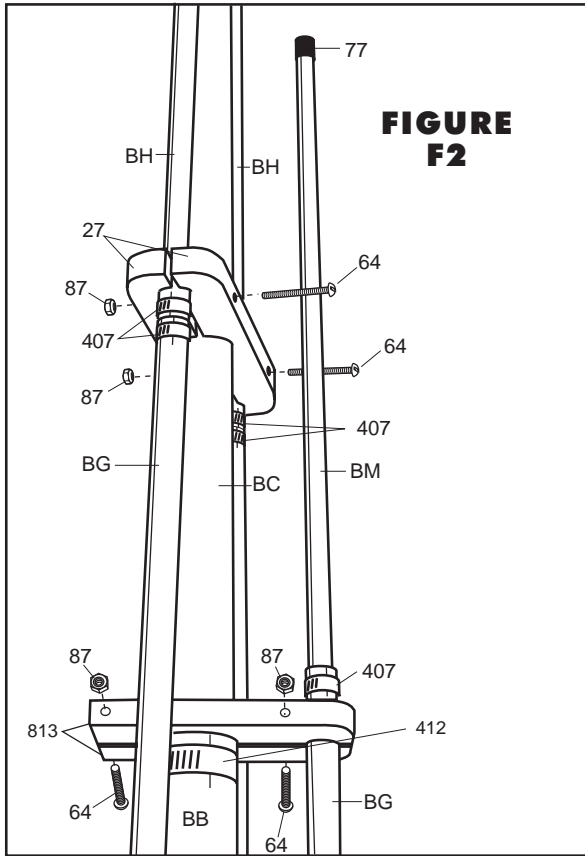
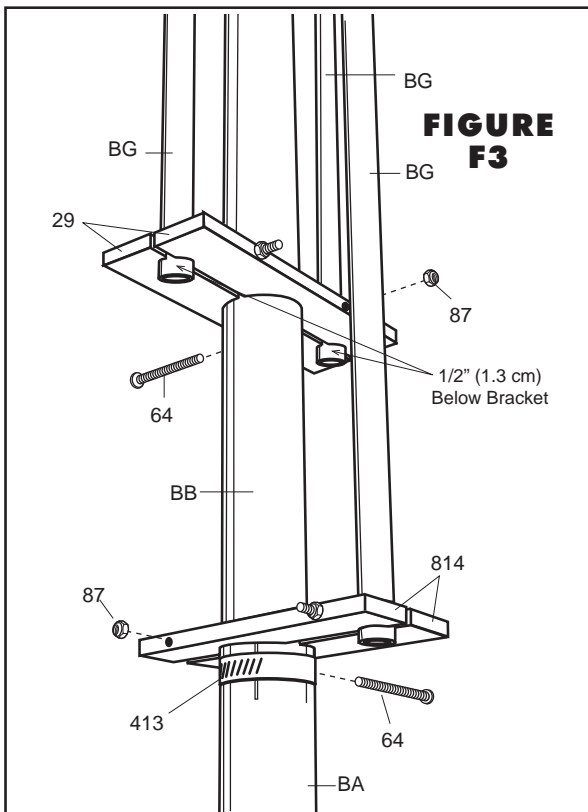

FIGURE F2
FIGURE F3
Place worm clamp (413) over top end of base assembly (BA). Slide non-slotted end of section BB into BA section 3 inches (7.6 cm) and secure worm clamp. Leave the aluminum clamp assemblies 814 and 29 screwed together. Slide (814) onto BB (Figure F3) and loosely secure with second screw (64) and nut (87). Now slide second clamp assembly (29) onto BB and secure loosely with screw (64) and nut (87).
Secure the 814 bracket assembly flush against the top of BA with BG tube in place 1/2" (1.3 cm) below the brackets (Figure F3). Attach brackets (813) to tubes BC and BG (Figure F2) using screws (64) and nuts (87). Put worm clamp (407) over top of BG tube, insert tube BM and secure. Set Dimension F using Chart B.